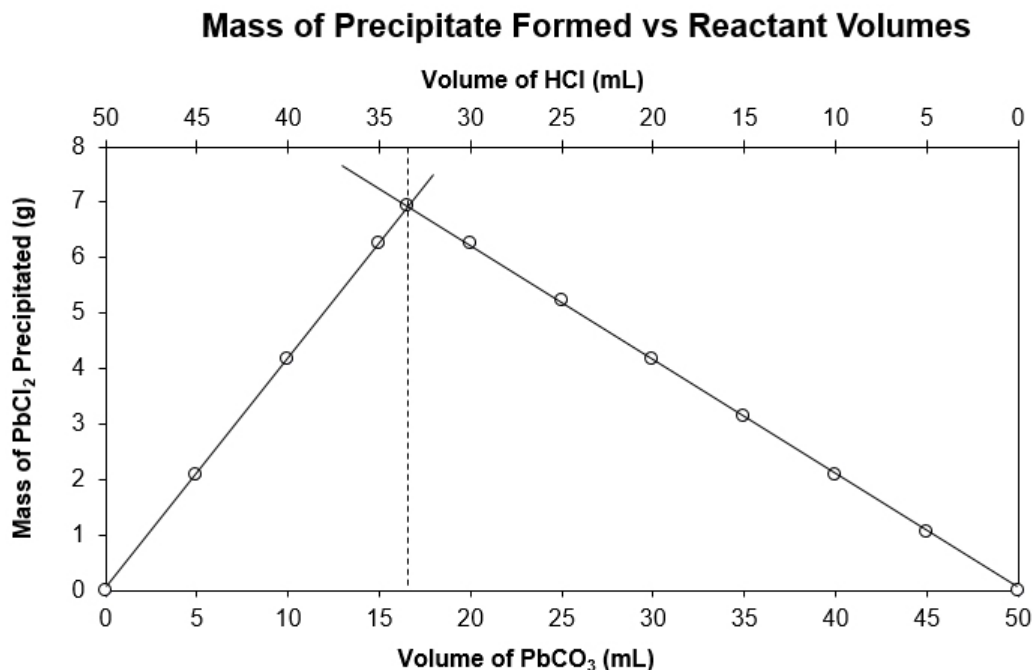

Figure 13.4: Data for example reaction showing the correct ratio of reactants to maximize the mass of product formed. credit: author.
We can measure the mass of precipitate formed (Hein Ch. 9 or OER Ch. 7), the volume of  $\text{CO}_2$  gas produced, using  $PV = nRT$  (Hein Ch. 12 or OER Ch. 8), or the heat produced (OER Ch. 9) and thus the temperature change assuming a constant volume of reactants using  $q = ms\Delta t$  (Hein Ch. 4 or OER Ch. 9). All three properties will depend on the number of moles of product formed. For simplicity we will only calculate the mass of  $\text{PbCl}_2$  produced. We will assume that we are using 1.5 M solutions of both  $\text{PbCO}_3$  and  $\text{HCl}$  and using the proper mol-to-mol ratio calculate the amount of  $\text{PbCl}_2$  produced. Table ?? contains the data for many ratios of the reactants. A graph of the data is shown in Figure 13.4.
- Proceed to make a good looking graph. It doesn't have to look identical to the graph in Figure 13.4 but it should look similar.